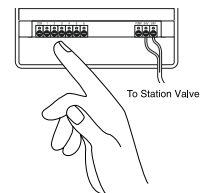

Figure 20: Connecting Valve Wires
- Connect the common wire to the terminal labeled “com” [See Figure 20].